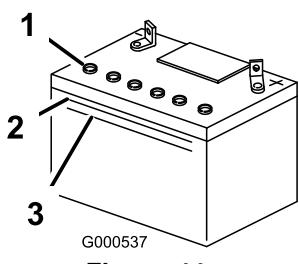

Figure 44
1. Look at the side of the battery. The electrolyte must be up to the **upper** line (Figure 44). Do not allow the electrolyte to fall below the Lower line (Figure 44).
3. Remove the vent caps from the battery (Figure 44).
4. Slowly pour distilled water into each battery cell until the electrolyte level is up to the Upper line (Figure 44) on the battery case.
5. Wait five to ten minutes after filling the battery cells. Add distilled water, if necessary, until the electrolyte level is up to the Upper line (Figure 44) on the battery case.